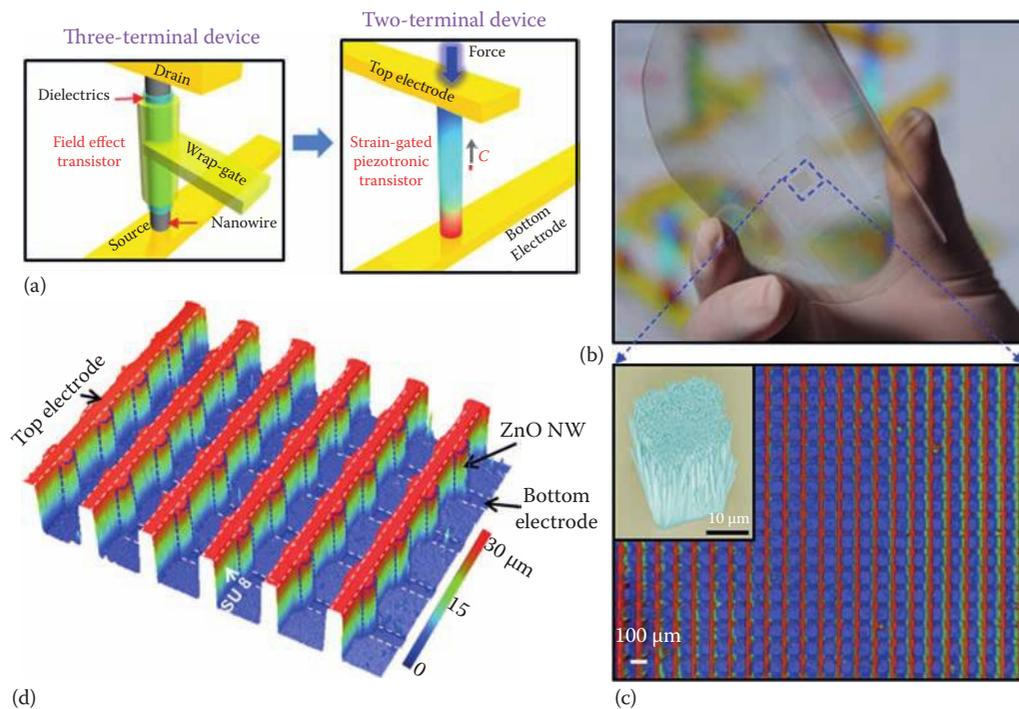

FIGURE 13.32
- 3D array integration of strain-gated vertical ZnO piezotronic transistors (Figure 13.32).